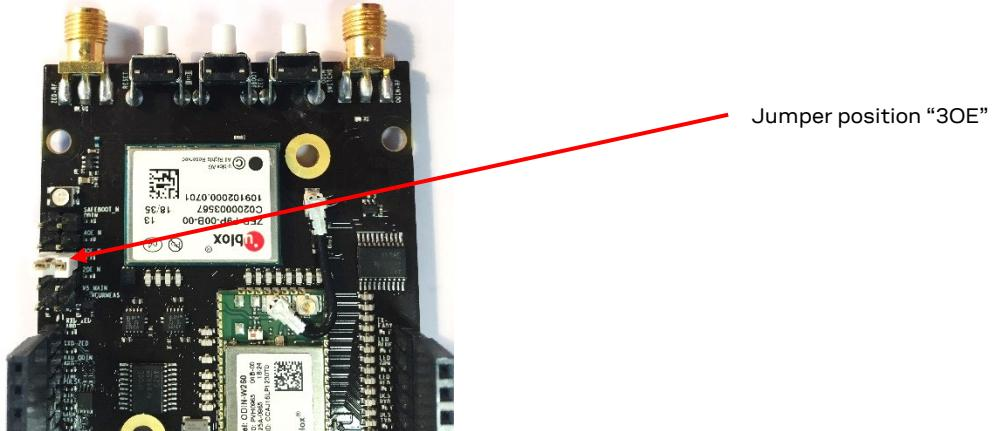

Figure 19: C099 rover jumper position
The ODIN-W2 module communicates with the ZED-F9P via a serial port which is shared with the FTDI USB/COM port via multiplexors. Once Bluetooth communication is established with the ODIN-W2, a jumper connection should be made at position “3OE” to connect the serial ports of the ZED-F9P and ODIN-W2 together. See Figure 19 below.
- ☛ Place a jumper at position “OE3” as shown in Figure 19, this will connect the ODIN-W2 and ZED-F9P UARTs to provide transmission of RTCM messages to the rover.